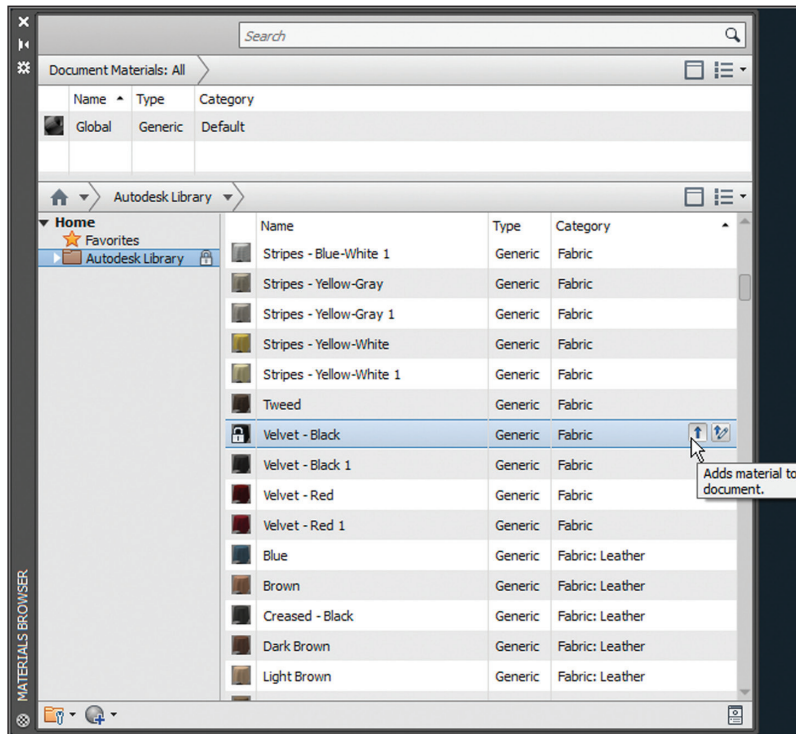

FIGURE 18.2 Loading a material from the Autodesk library into the document
2. Select the ribbon's View tab and click the Materials Browser toggle in the Palettes panel. In the Materials Browser palette that appears, expand the name column so you can read the material names. Click the Category column header to sort the list by category. Scroll down and locate the Fabric category in the Autodesk library. Click the upward-facing arrow icon in the Velvet – Black row to load this material into the document (see Figure 18.2).